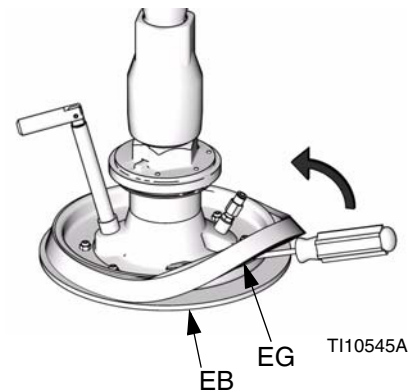

FIG. 11
1. Working from the bottom, use screwdriver to pry spacer (EG) loose. Work spacer upward completely above the flange of the platen. See FIG. 11.